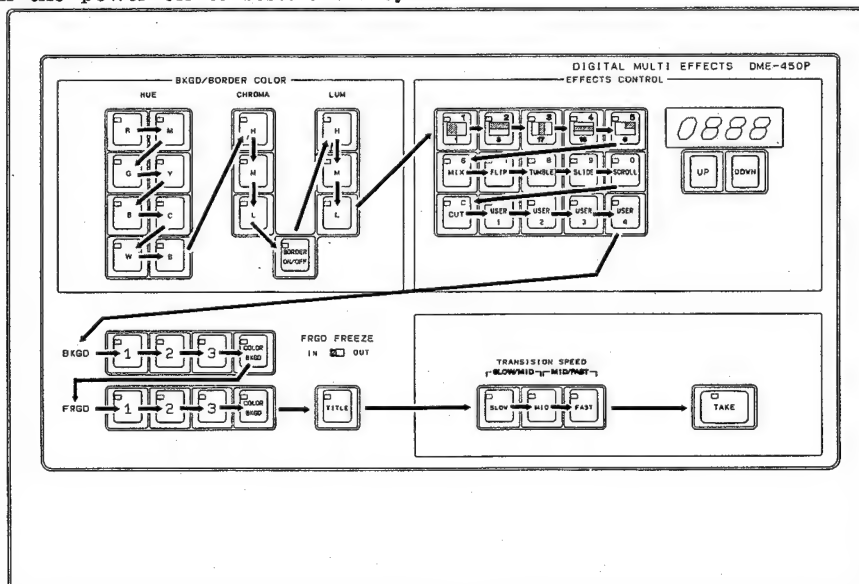

Fig. 1
(1) The unit will enter the console LED check routine. "0000", "1111", "222", "333", "444", "555", "666", "777", "888" and "999" are displayed in the effect number display area in order. Then every LED key will light in order shown in the figure. (Fig. 1)
(1) "0000", "1111", "222", "333", "444", "555", "666", "777", "888" and "999" are displayed in the effect number display area in order. Then every LED keys will light in order shown in the figure. (Fig. 1)
Check : Press the keys in order from left to right, shown in the figure. (Fig.1)